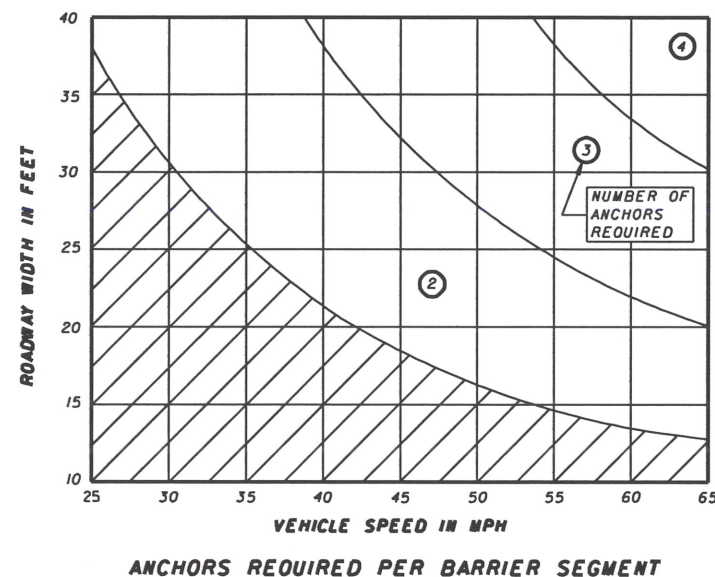

FIGURE 3
2. IF IT IS DETERMINED THAT THE BARRIER CHAIN MUST BE ANCHORED, ENTER FIGURE 3 WITH THE KNOWN ROADWAY WIDTH AND THE POSTED SPEED  $\#$  TO FIND THE NUMBER OF ANCHORS REQUIRED PER BARRIER SEGMENT.